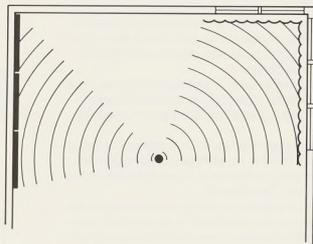

figure 4
- The construction of vertical surfaces can also cause acoustical problems. Windows and nonporous walls, for example, are highly sound reflective. You can alter the reflective nature of these surfaces with draperies, acoustical window blinds, and acoustical wall coverings. Use them in corners, too. (See figure 4).